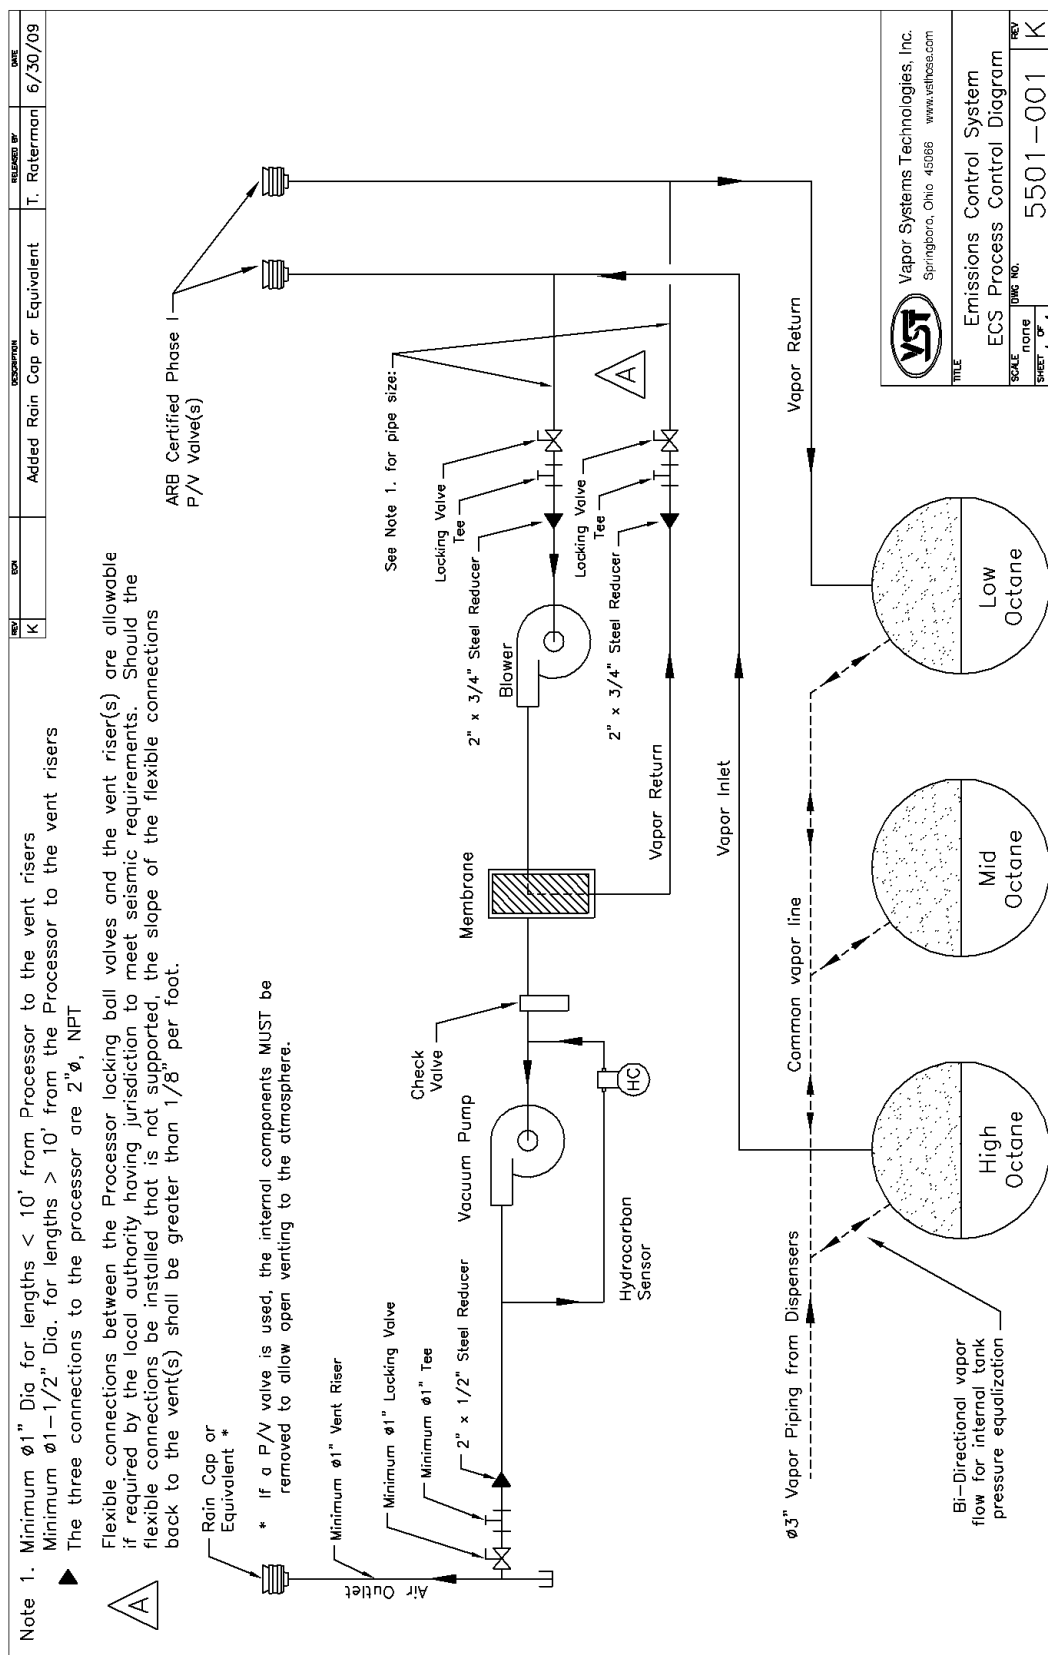

Figure 17: Processor Piping Connections
- The tee and the ball valve allow for isolation of the *Processor* from the vapor-piping system for maintenance and testing. See Figure 17.